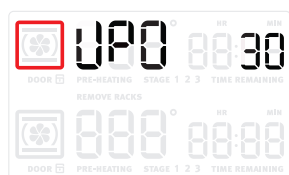

Figure 29: Oven temperature set 30° higher than default
1. Press **user pref** until **UPO** appears in the display. The default setting of **0** should display next to **UPO** (Figure 29).
2. To increase the oven temperature by 30°F , press **+hi** until **30** appears next to **UPO** (Figure 29). **30**